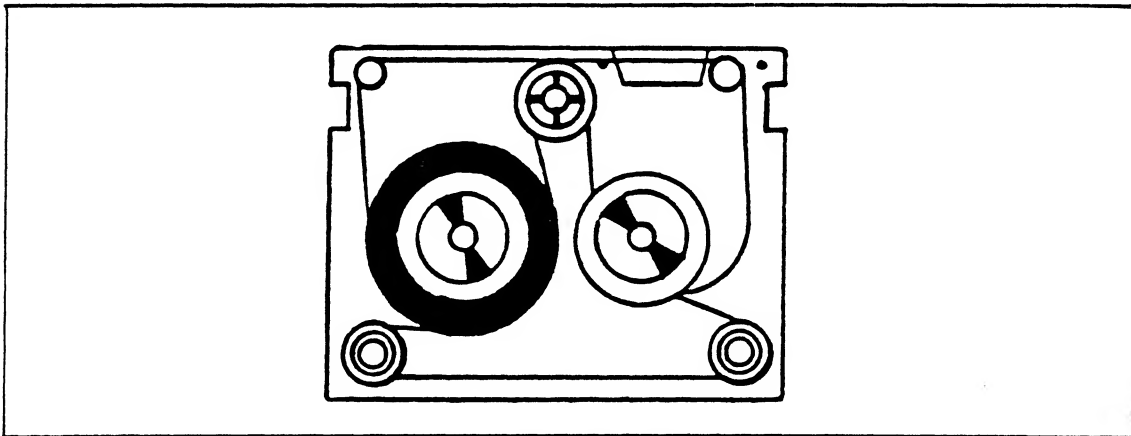

Figure 214-15. Cartridge Tape Threading
3. Thread the end of the tape around the tape guides as shown in Figure 214-15.